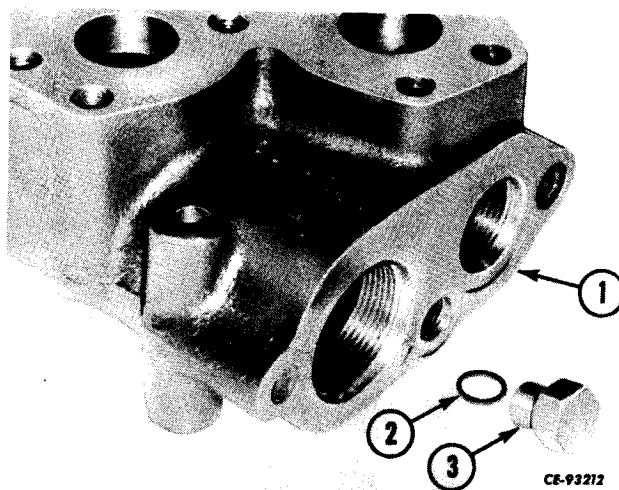

Figure 11-65
Lubricate a new "O"-ring (2, Fig. 11-65) and position on the plug (3). Install the plug in the valve (1).